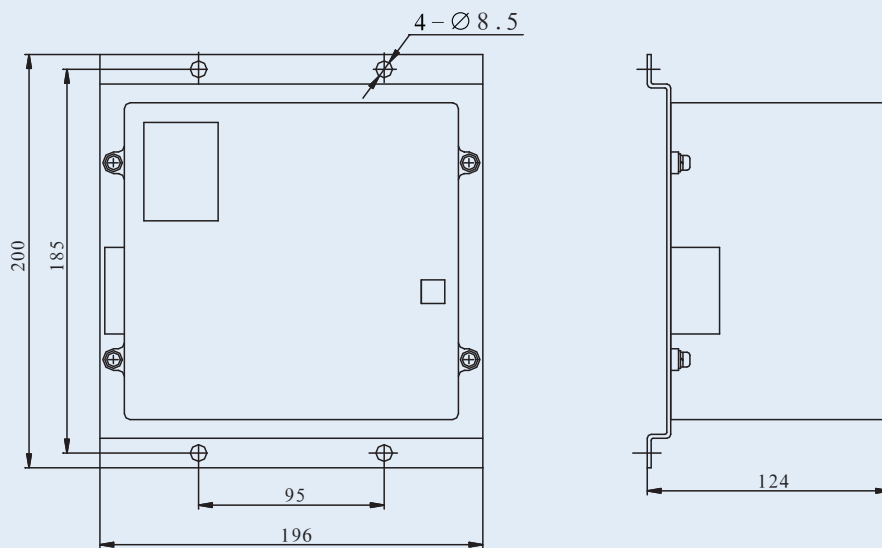

Fig.1
1. Fig. 1 shows overall and installing dimensions of HSQ6-100, the overall and installing dimensions of controller is shown in Fig. 6. (The upper connects the standby power supply and the load, the lower is connected to the power supply.)